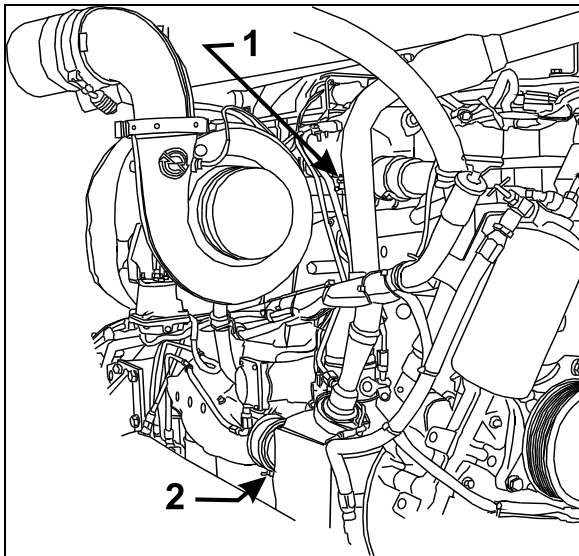

FIGURE 8: ENGINE COOLANT DRAIN COCKS 05088
4. Open drain cock at bottom of thermostat housing to drain the coolant trapped above the thermostats (1, Fig. 8).
6. Open engine drain cock (2, Fig. 8).